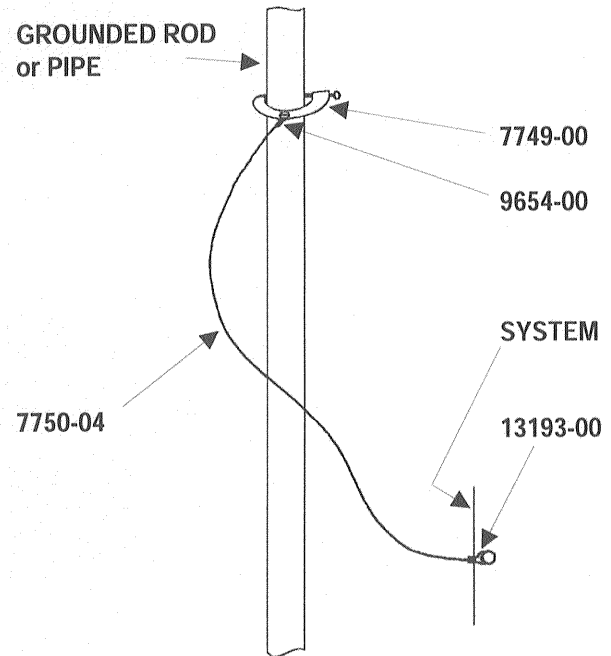

Fig. 1
3. Attach Grounding Clamp Assembly, P/N 17440-00, to System. Use a convenient Nut and Bolt to secure Lug, P/N 13193-00, to system. (see Fig. 1)
4. Securely attach Clamp, P/N 7749-00 to permanently grounded rod or pipe. (see Fig. 1)